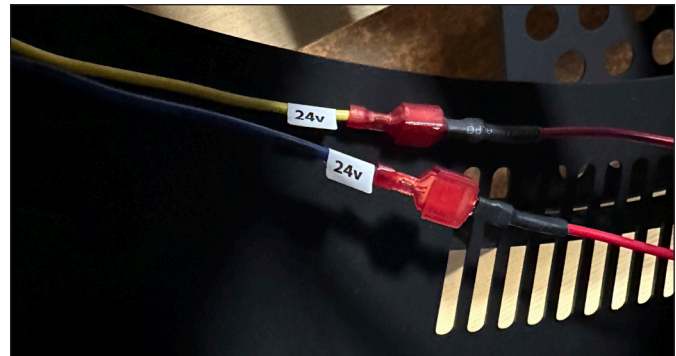

Figure 3: Burner Removal
1. Disconnect the blue and yellow wires labeled "24V". see Figure 3.